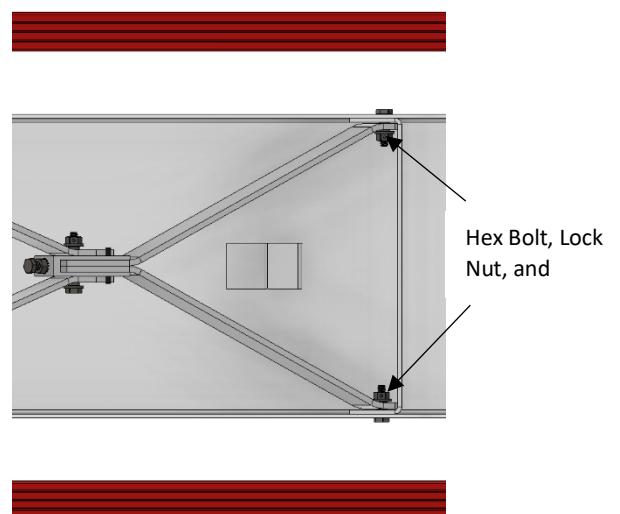

Figure 4
6. Unthread and remove the two 1/4"-20 center lock nuts and 1/4"-20 x 1" hex bolts securing the Locking Brace Assembly to its mounting holes on the top assembly as indicated in Figure 4.
2. Using two of the **new** bushings supplied with the Locking Brace Assembly, place a bushing through each of the mounting holes on the long upper strut of the Locking Brace Assembly and align mounting holes on the long upper strut with the mounting holes on the top assembly as indicated in Figure 4.
3. Using a **new** 1/4"-20 x 1" hex bolt, insert the new hex bolt through the mounting hole on the top assembly and through the bushing in the mounting hole on the long upper strut of the Locking Brace Assembly on one side of the top assembly as indicated in Figure 4.